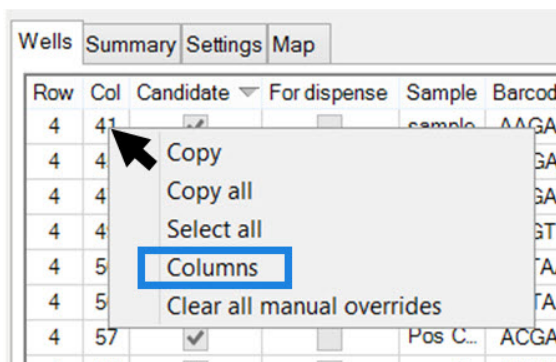
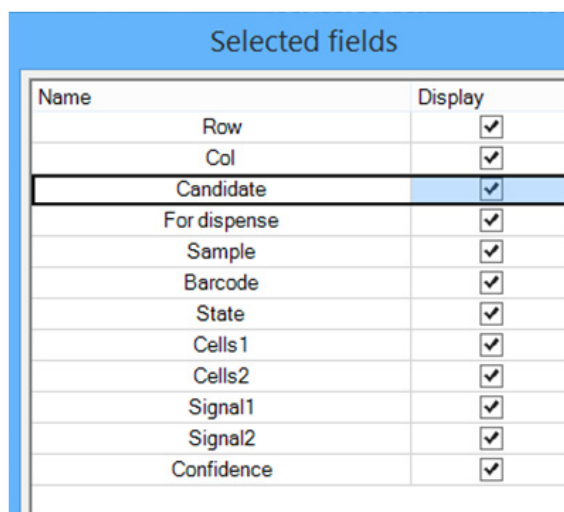

Figure 24. Example right-click menu.
Figure 25. Column heading options.
**Column display:** On several data and analysis screens, you can choose the information to be displayed by right-clicking anywhere within the table (not in the column headers) and choosing **Columns** (see Figure 24, above). This action will open a *Selected fields* dialog box with checkboxes next to the information categories (see Figure 25, below). Click the checkboxes to select or deselect the columns that you want to display or hide. These selections will be remembered the next time the program starts.